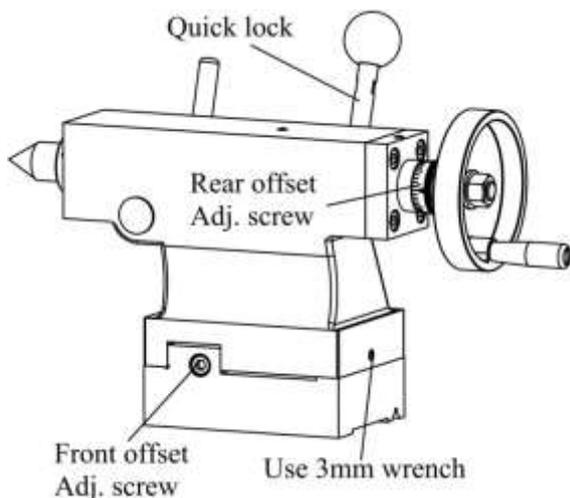

Figure 12 .Tailstock positioning controls.
1. Loosen the tailstock Quick lock shown in **Figure 12**.
The two offset adjustment screws (**Figure 12**) position the tailstock away from the center line for turning tapers.